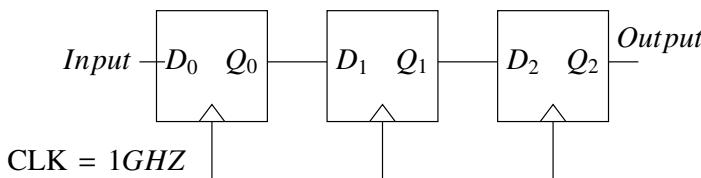

Fig. 5.6
6. Implement the synchronous sequential circuit shown in Fig. 5.6 with a clock frequency of 500Hz.